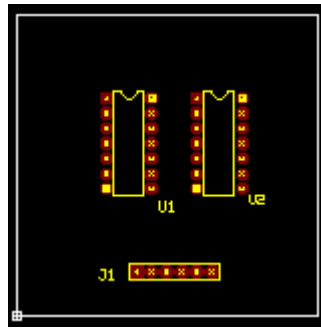

Fig.8.2
3. Place U2 and J1 in the same method described above. Final placement should appear as shown in Fig.8.2.